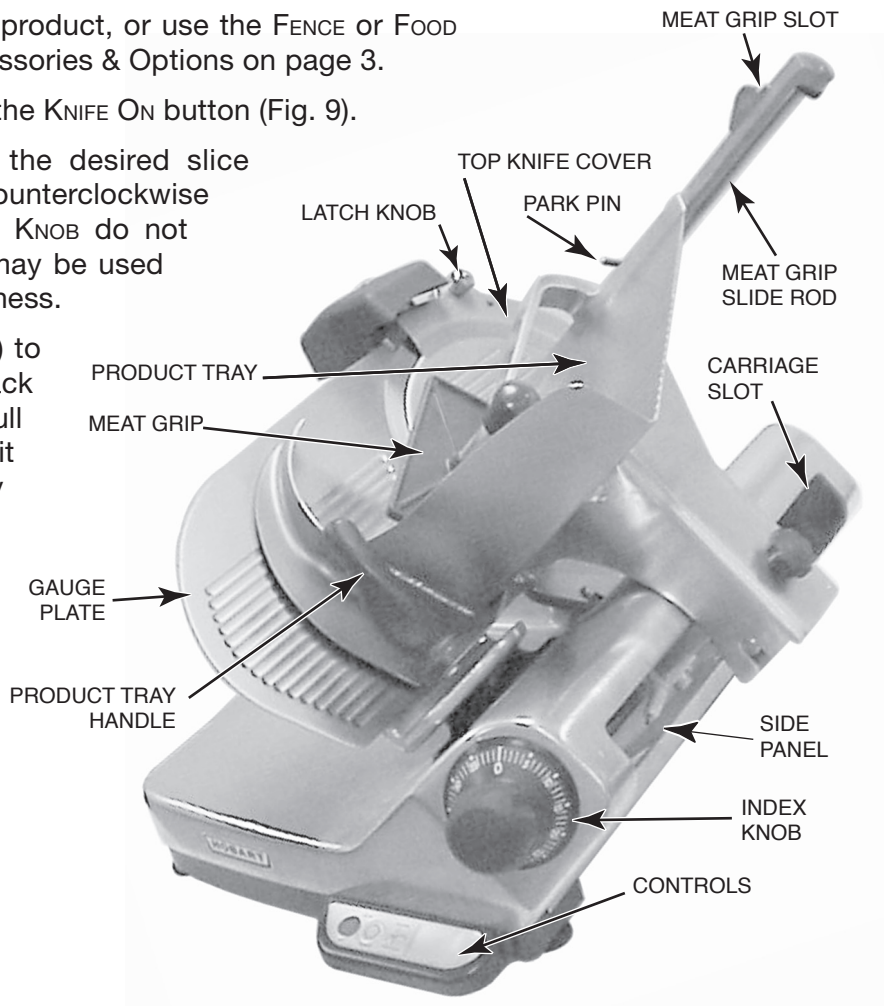
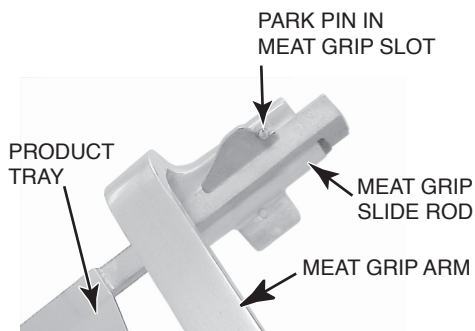

Fig. 7
Fig. 8
The TOP KNIFE COVER, and the plastic RING GUARD COVER underneath it, are shipped in place and secured with the LATCH KNOB on the TOP KNIFE COVER (Fig. 7).
To remove the TOP KNIFE COVER, turn the LATCH KNOB (Fig. 7) counterclockwise and lift the TOP KNIFE COVER off the three guide PINS (Figs. 5, 6). Remove the plastic RING GUARD COVER by lifting it from the guide PINS (Fig. 6).
Secure the RING GUARD COVER and TOP KNIFE COVER by turning the LATCH KNOB counterclockwise while lowering the TOP KNIFE COVER; then, release the LATCH KNOB and turn it clockwise until snug (Fig. 7).
- Close the GAUGE PLATE by turning the INDEX KNOB fully clockwise (Fig. 7).
- Pull the PRODUCT TRAY (Fig. 7) all the way toward you until it reaches its stop (this is the home position).
- Raise the MEAT GRIP to the top of the PRODUCT TRAY, and rest the PARK PIN in the MEAT GRIP SLOT (Fig. 8).
Adjust the GAUGE PLATE to obtain the desired slice thickness by turning the INDEX KNOB counterclockwise (Fig. 7). The numbers on the INDEX KNOB do not indicate actual measurements but may be used for reference to duplicate slice thickness.
Use the PRODUCT TRAY HANDLE (Fig. 7) to push and pull the PRODUCT TRAY back and forth to slice. When finished, pull the PRODUCT TRAY toward you until it stops. Turn the INDEX KNOB fully clockwise to close the GAUGE PLATE – this will turn the slicer off. You can also press the OFF button to stop the slicer.
Raise the MEAT GRIP to the top of the MEAT GRIP SLIDE ROD, and rest the PARK PIN in the MEAT GRIP SLOT (Fig. 8).
Use the PRODUCT TRAY HANDLE (Fig. 7) to push the PRODUCT TRAY back and forth to slice manually. When finished, pull the PRODUCT TRAY toward you until it stops. Close the GAUGE PLATE by turning the INDEX KNOB fully clockwise. Press the OFF button to stop the slicer. Raise the MEAT GRIP to the top of the MEAT GRIP SLIDE ROD, and rest the PARK PIN in the MEAT GRIP SLOT (Fig. 8).
Remove the TOP KNIFE COVER by turning the LATCH KNOB (Fig. 7) counterclockwise and lifting the TOP KNIFE COVER free of the three guide PINS (Figs. 13, 14).
Carefully reassemble the plastic RING GUARD COVER by putting it in position using the three guide PINS (Fig. 14). Carefully reassemble the TOP KNIFE COVER (Fig. 13) by putting it in position over the plastic RING GUARD COVER using the three guide PINS. Secure both RING GUARD COVER and TOP KNIFE COVER by turning the LATCH KNOB (Fig. 7) counterclockwise while lowering the TOP KNIFE COVER; then release the LATCH KNOB and turn it clockwise until snug.
- Place the TOP KNIFE COVER on top of the RING GUARD COVER, aligning with the three guide PINS (Fig.13). Secure the RING GUARD COVER and the TOP KNIFE COVER by turning the LATCH KNOB (Fig.7) counterclockwise while lowering the TOP KNIFE COVER; then, release the LATCH KNOB and turn it clockwise until snug.